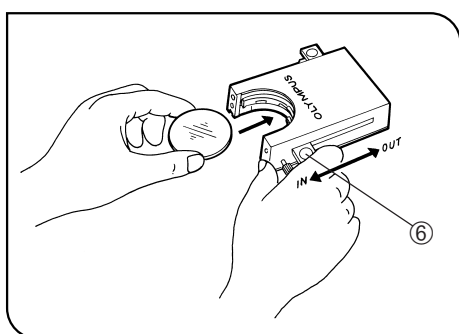

Fig. 8
**Using the Filter Cassette (Figs. 8 - 11)**
2. Slide the lever ⑥ to the IN position. Make sure that it clicks securely into place. (Fig. 8)
3. Holding the lever in the position shown in Fig. 8, put the filter into the cassette by inserting it in the direction indicated by the arrow.